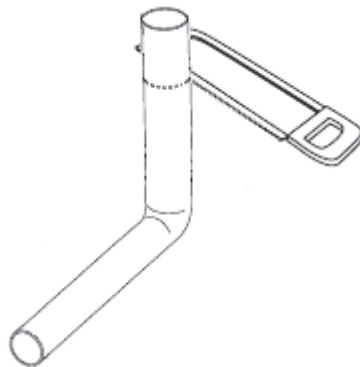

Fig. 7
6. Undo the backnut (H) and remove the flush pipe (F) from the cistern. Transfer the measurement made in Step 5 onto the top of the flush pipe. Remove the section marked using a hacksaw. The cut end of the flush pipe must be finished with sandpaper or a file. (See **Fig. 7**).